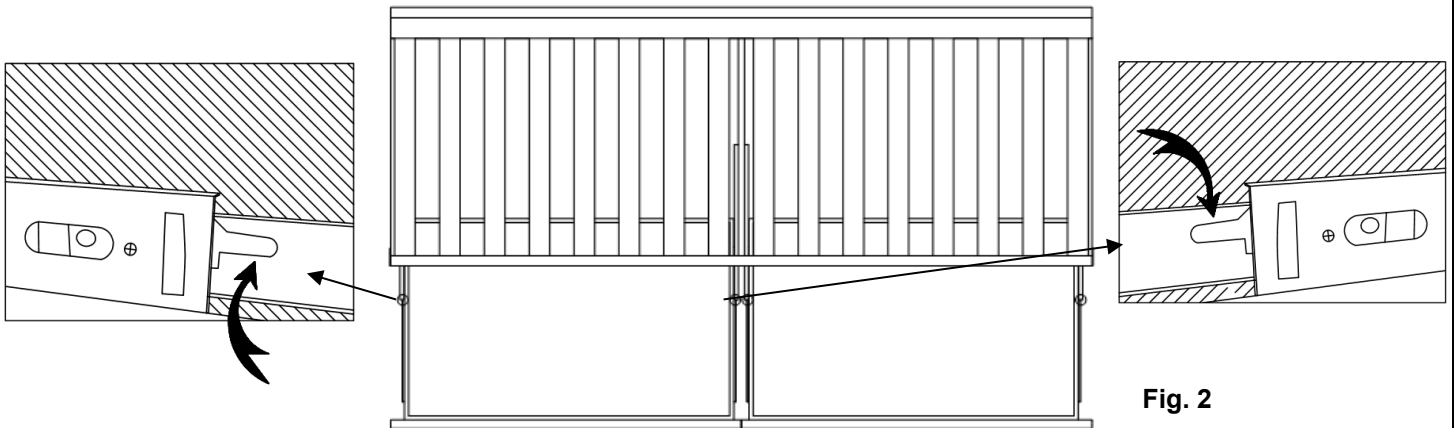

Fig. 2
2. Located near the center of the ball bearing slide lift the plastic LEFT lever up and push the RIGHT plastic lever down simultaneously in order to remove the drawer. See **Fig. 2**.